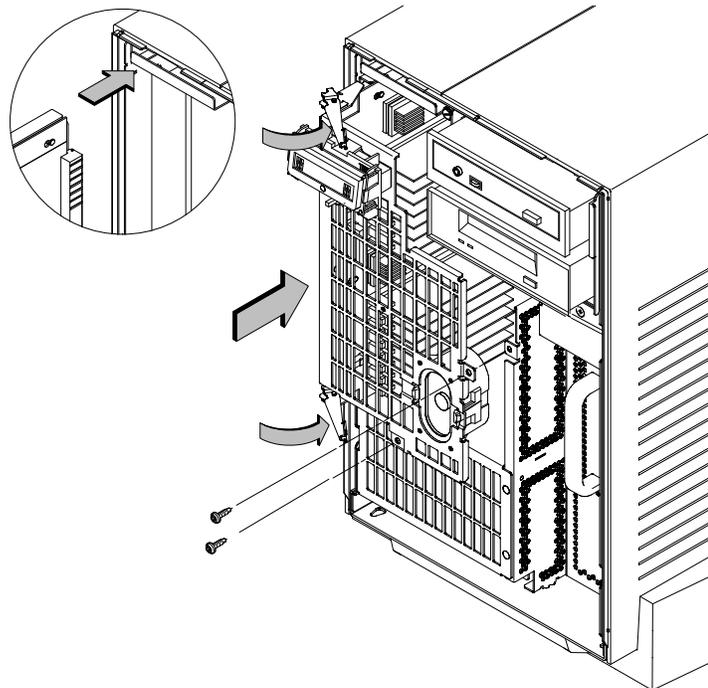

Figure B-30. Replacing the CPU Assembly
12. To replace the CPU Assembly in the system unit, first align the top of the CPU Assembly with the guide on the system unit. Refer to Figure B-30 and to the label on the back of the assembly. Be sure to support the CPU Assembly properly while replacing it.
Next, align the bottom of the CPU Assembly with the guide on the system unit. With the ejector latches in the open position, slide the CPU Assembly into the system unit as far as it will go. See Figure B-30.